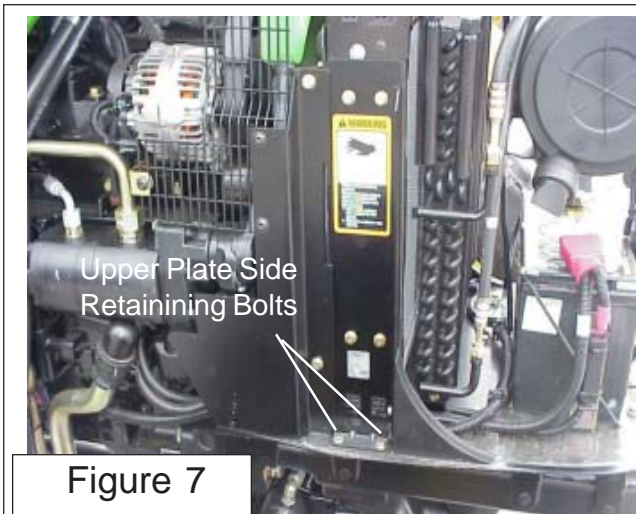

Figure 7
4. Remove Tractor Upper Bolster Cover Plate. The tractor bolster upper cover will need to be modified and will have to be removed from the tractor to perform this modification. The radiator will need to be unbolted from the bolster BUT NOT removed from tractor. DO NOT disconnect any hoses for radiator, air conditioning condenser ,oil cooler or any electrical wiring, IT WILL NOT BE REQUIRED. The Battery should already be removed, if not see step one. The radiator has two bolts on each side that mounts down to the bolster cover plate (See Figure 7). There are two on each side LH & RH. Also notice the side protection shield is still installed on the RH side (See Figure 7), it is easier to work with these shields removed but can be done with them left on.